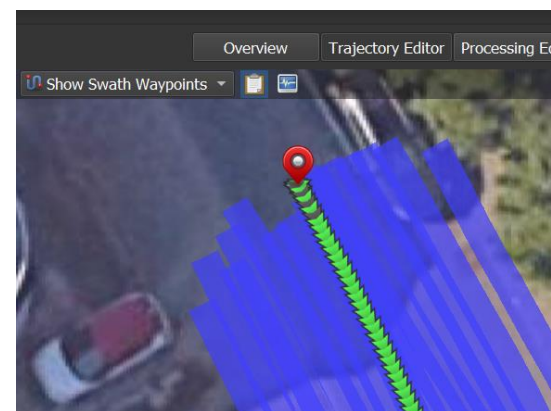

Fig. 53 How to hide tomography on the trajectory editor
2. Press again the same icon to hide the tomography view (Fig. 53), and only show the swaths coverage.